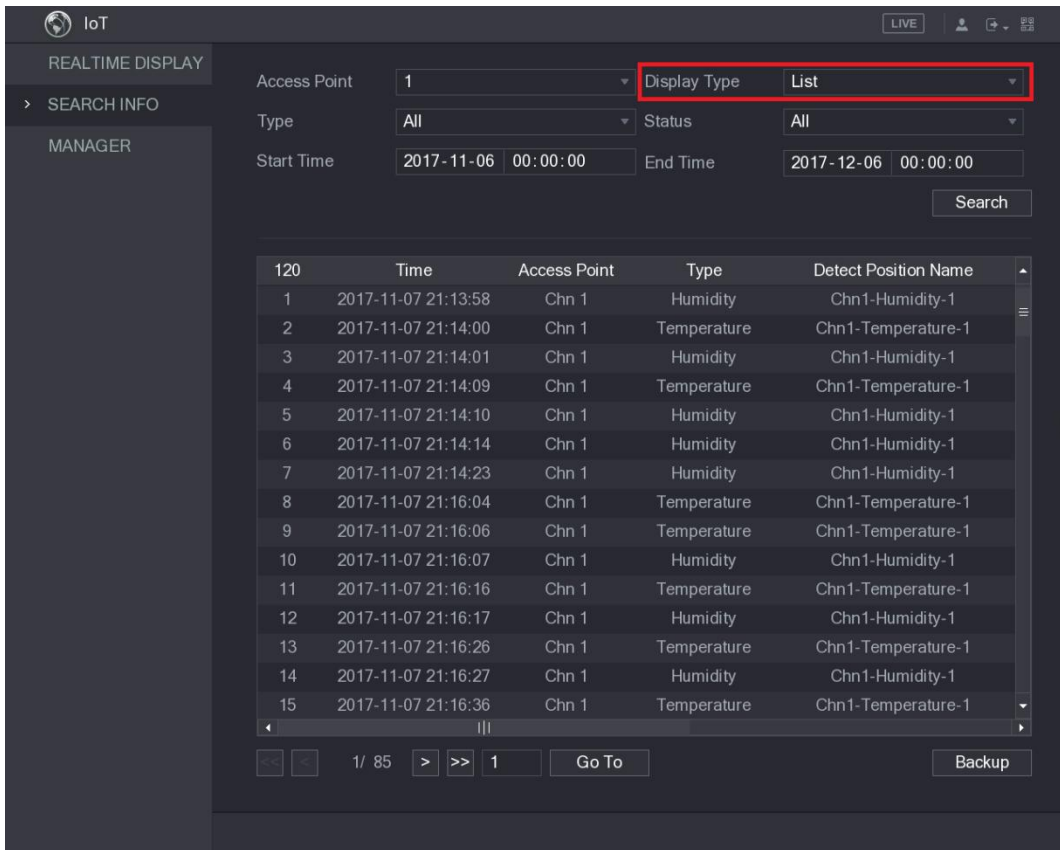

Figure 5-183
- For the data displayed in list, see Figure 5-183.